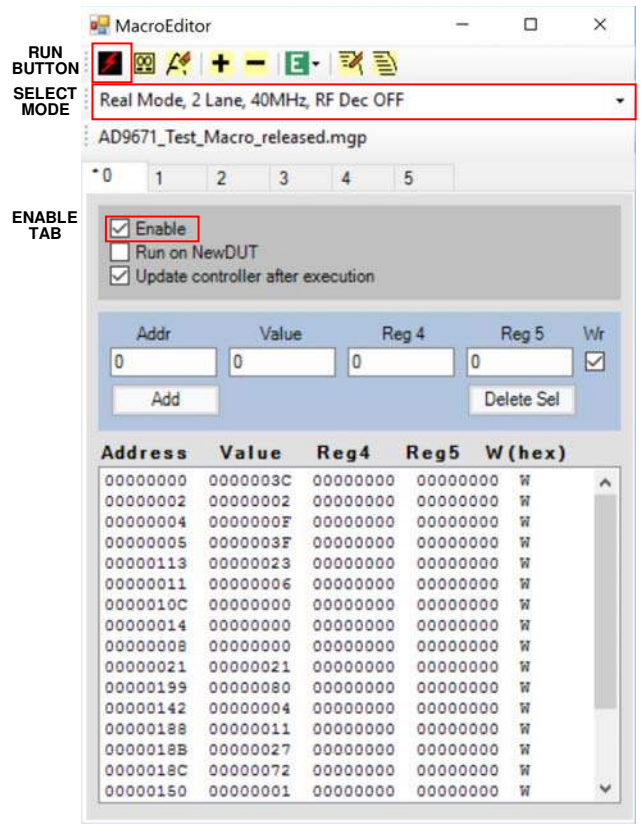

Figure 12. Macro Editor Graphical User Interface (GUI)
1. The macro file loaded in Step 10 of the Configuring the AD9671EBZ Evaluation Board section is an XML file that lists SPI command macros. Each macro includes SPI writes that configure the AD9671 for a certain operating mode. The **MacroEditor** window in Figure 12 lists all macros under a dropdown list as well as under numerical tabs. The macro file contains six macros. Users can edit the XML macro file to add their own configuration macros and load the edited file onto the macro editor. Table 1 shows an example SPI macro that configures the AD9671.
2. To run one of the macros, select the appropriate tab, 0 to 5, shown in Figure 12, or select the macro from the drop down list. Select the **Enable** checkbox while making sure the internal or external clock matches the speed mode selected, as described in Step 7 of the Configuring the AD9671EBZ Evaluation Board section. See Table 2 for the modes supported by the macro. Click the **Run** button shown in Figure 12 to run the macro.